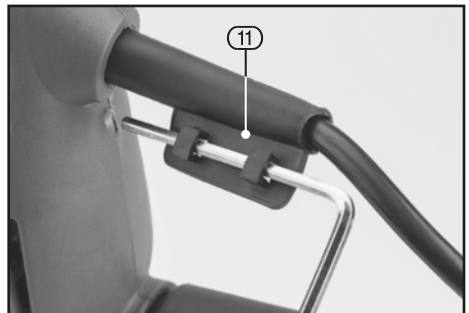

FIG.9
Note: Convenient hex. key storage (11) is incorporated into the base of the power supply cable (fig.9).